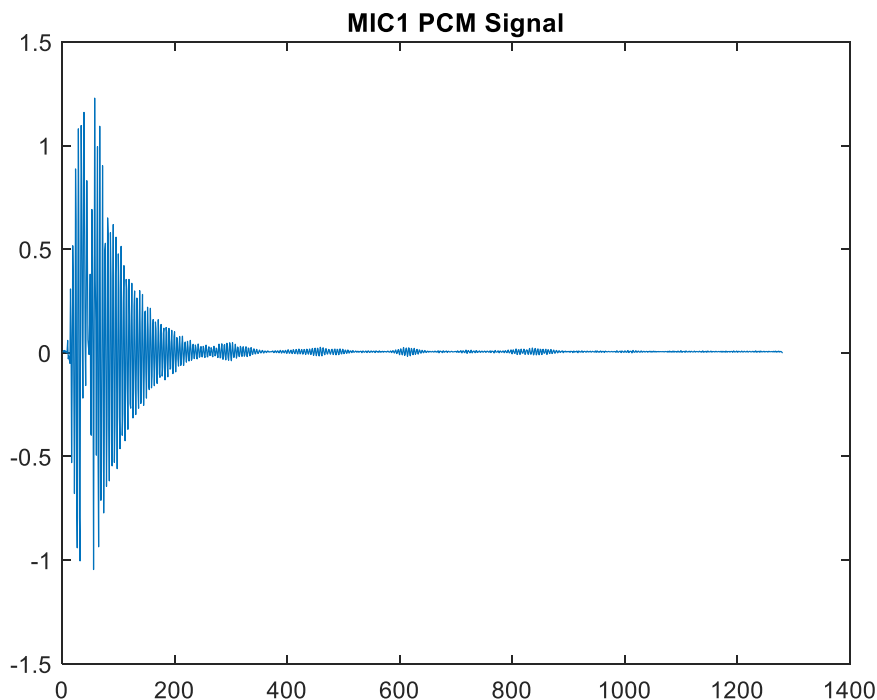

Figure 8: Example of MIC1 recording.
- Open Matlab in the *matlab* folder and run command (result can be seen in Figure 8):